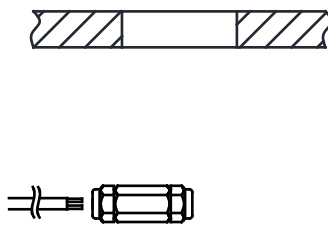

Fig 1.2
- 1.2 Connect the mains supply cable to a waterproof junction box. (See Fig 1.2)